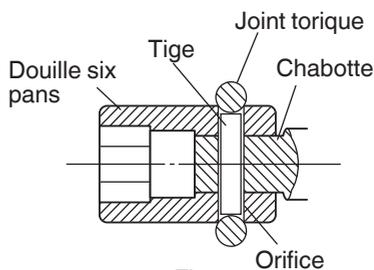

Fig. 4
### (2) WR25SE: Tige, type joint torique (Fig. 4)